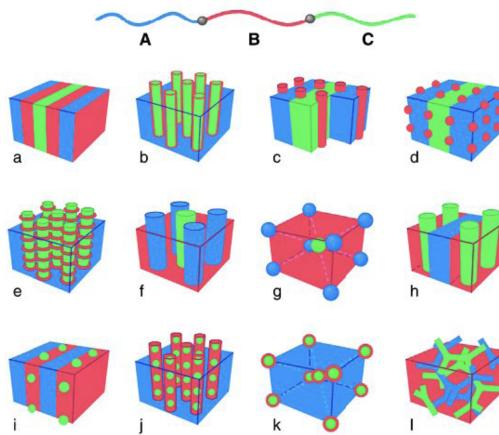

Figure 2.17: Self-assembly of an ABC triblock copolymer.
- If we have something like (a) of Figure 2.17, then we probably have $N_A = N_B = N_C$ (because everything is nice and equally ordered) and $\chi_{AC} < \chi_{AB} \approx \chi_{BC}$ (because we have AB and BC interfaces, but not AC interfaces).
- If we can do everything in Figure 2.17 with 3 things, imagine how much we can do with the 20 amino acids!
- **Min-max principle:** Phases are most stable when we (1) minimize interfacial energy and (2) maximize the conformational entropy of the chains.